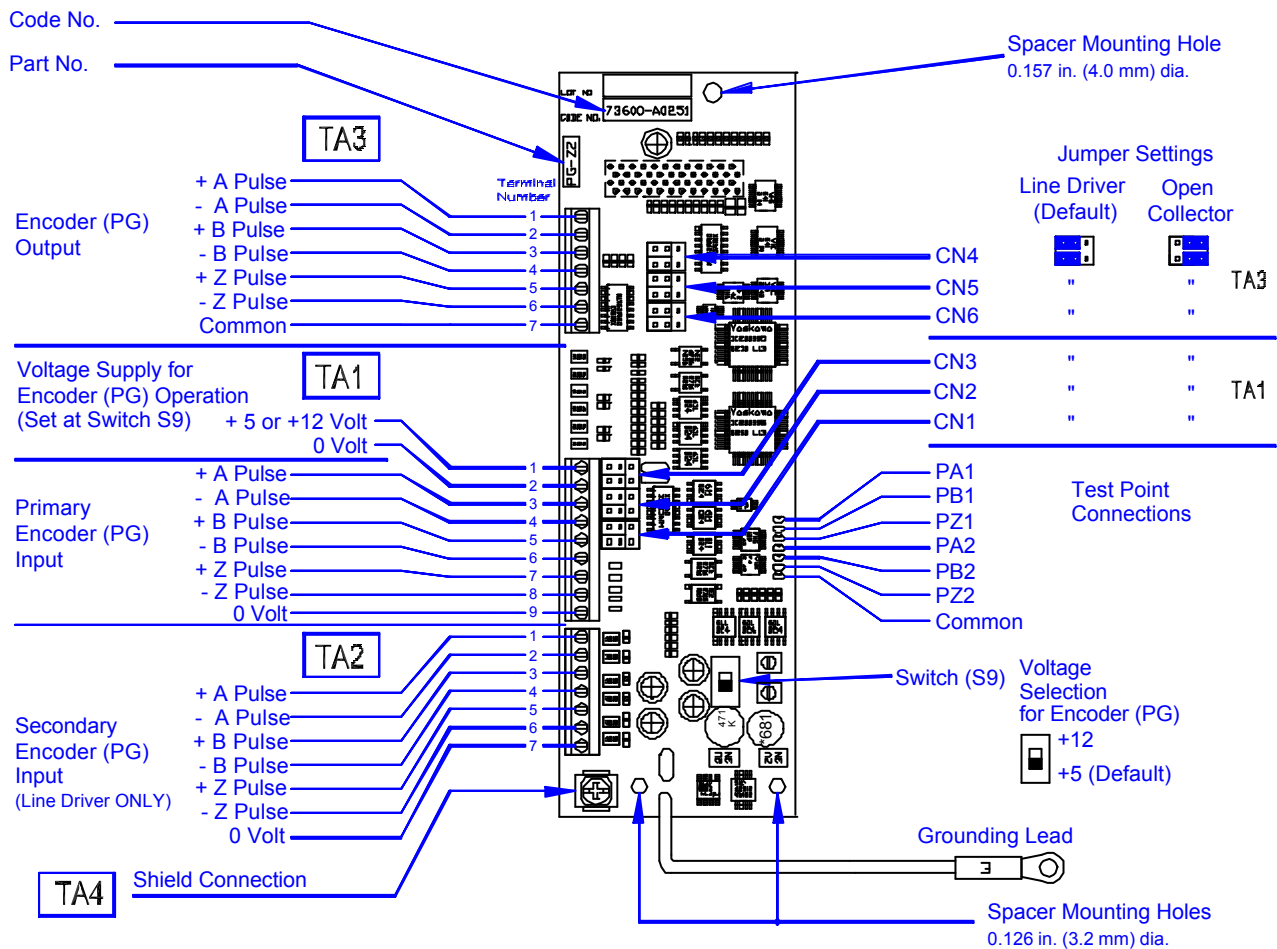

Figure 1. Dual Encoder (PG) Feedback Card (PG-Z2)
The Dual Encoder (PG) Feedback Card (PG-Z2) (Figure 1) is mounted on the drive's control board to provide speed and direction feedback from two encoders. The drive's control logic can use this information for purposes such as correcting for speed fluctuation caused by motor slip, maintaining the velocity and phase relationship between two machine (motor) shafts, and aligning a spindle at stop for tool changing.
- (1) Carefully remove the option card from the static bag following procedures for safe handling of static sensitive devices.
- (2) Verify that the correct option card has been received by matching the code and part numbers on the card with your order.
- (3) Use Figure 1 to locate the following components.
- (4) Set jumpers CN1 thru CN3 to either line driver (default) or open collector depending on your encoder requirements. This sets the **input** type to the PG-Z2 on terminal TA1. The second encoder input, TA2, is fixed to a line driver type encoder.
- (5) Set voltage supply switch (S9) to the voltage required to operate your encoder (PG). **Default is 5 volts**. Maximum current available for encoder (PG) operation is 200mA. Check your encoder (PG) manual for your encoder's (PG) requirements. When supplying power to two encoders using the PG-Z2, ensure that the total current is less than 200mA.